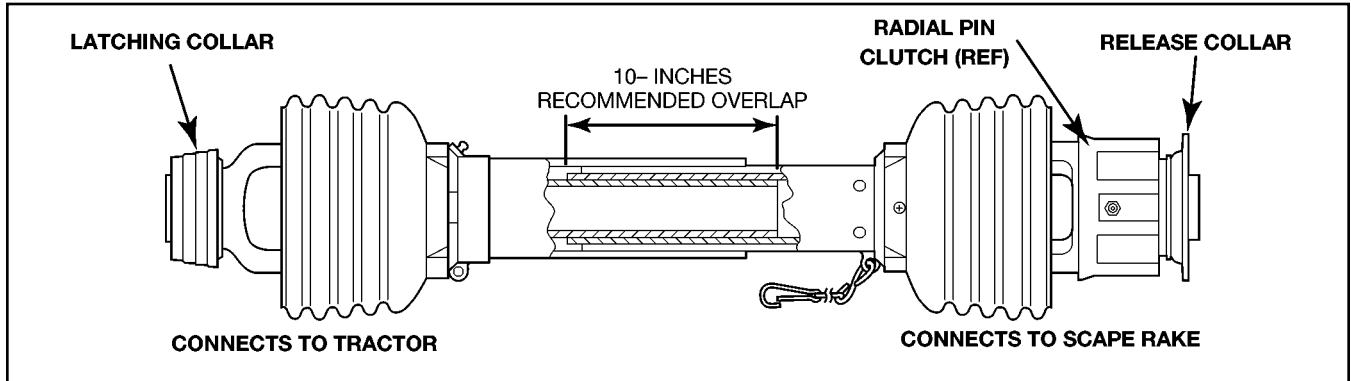

FIGURE 3 Minimum PTO Shaft Overlap
C. Check PTO drive shaft overlap as follows (See Figure 3):